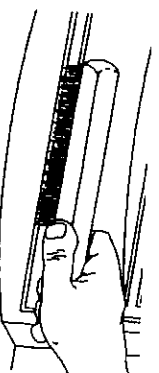

Fig. 54. Clean the gasket channel with a wire brush.
2. Use a wire brush or the tip of a screwdriver to clean the channel of any remaining cement or bits of gasket, as in Fig. 54. Remove stubborn deposits of cement with a cold chisel if necessary.